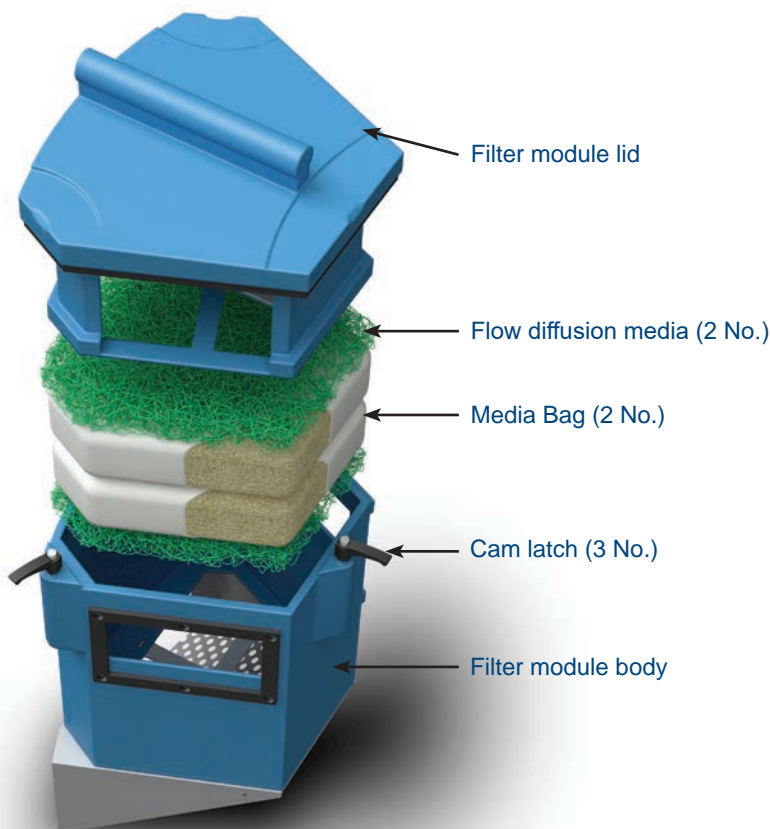
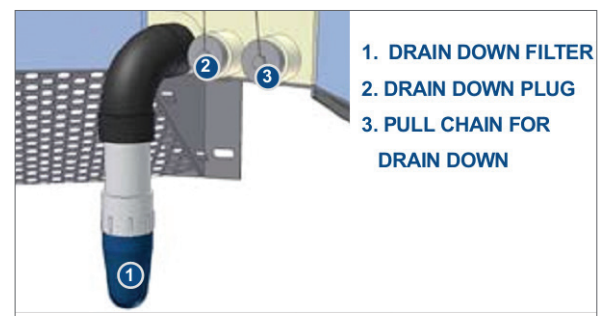

Figure 3 - Exploded view of an Up-Flo™ Filter Module.
Figure 4 - Drain down filter fittings.
1. Open the Filter Module by turning the three cam latches on the front and sides of the module. Remove the lid to gain access to the Media Pack (see Figure 3).
3. Next, insert the first of two (2) Media Bags. Smooth the bag out with your hands to make sure that it extends snugly to the walls and corners of the Filter Module.
7. Screw the drain down filter onto the outlet module (see Figure 4).